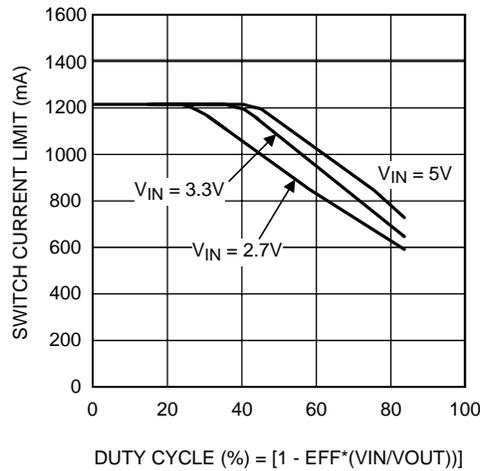

Figure 15. Switch Current Limit vs Duty Cycle
- (1) Switch current limit is dependent on duty cycle. Limits shown are for duty cycles  $\leq 50\%$ . See Figure 15 in Application Information – MAXIMUM SWITCH CURRENT section.
The maximum FET switch current available before the current limiter cuts in is dependent on duty cycle of the application. This is illustrated in Figure 15 below which shows typical values of switch current as a function of effective (actual) duty cycle: